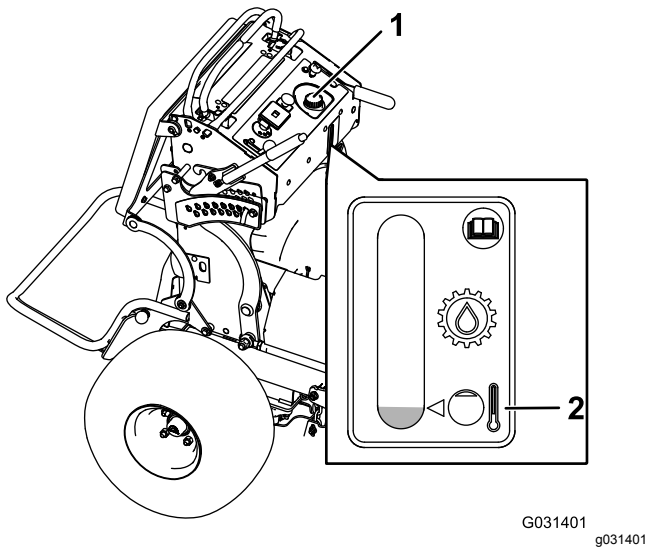

Figure 74
4. Remove the cap from the filler neck (Figure 74).